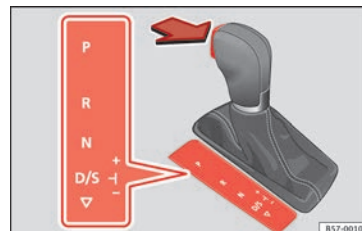

Fig. 178 Selector lever lock.
- Press the brake pedal *and*, at the same time, hold the lock button in the direction of the arrow »» **Fig. 178.**